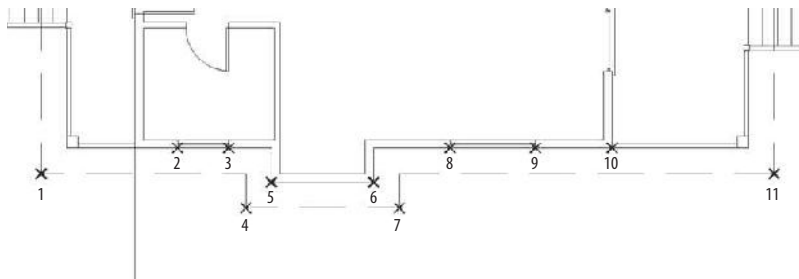

FIGURE 10.8: Copy the construction line to the 11 points shown here.
4. With the Endpoint osnap running, select each of the 11 endpoints shown in Figure 10.8.